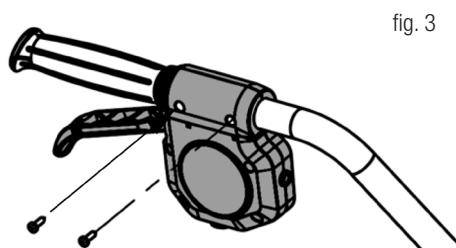

fig. 3
3. Mount the clutch handle as shown in fig. 3.